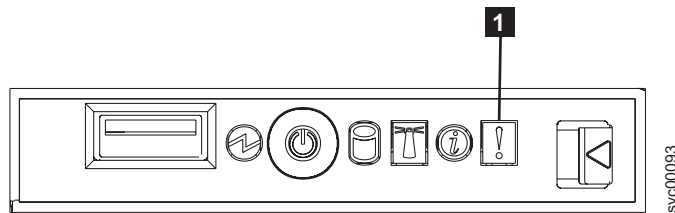

Figure 32. Operator panel error LED
- Is the operator panel error LED that you see in Figure 32 illuminated or flashing?**